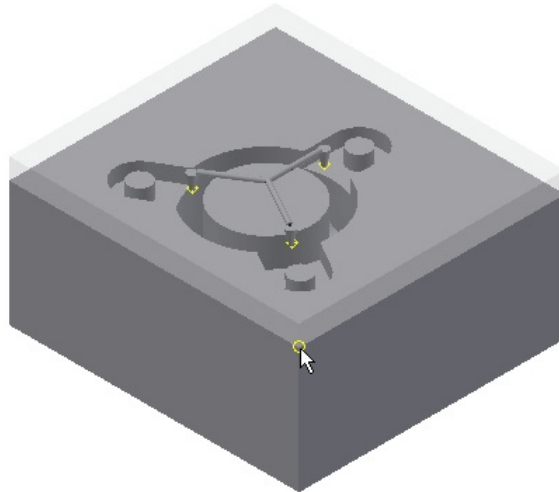
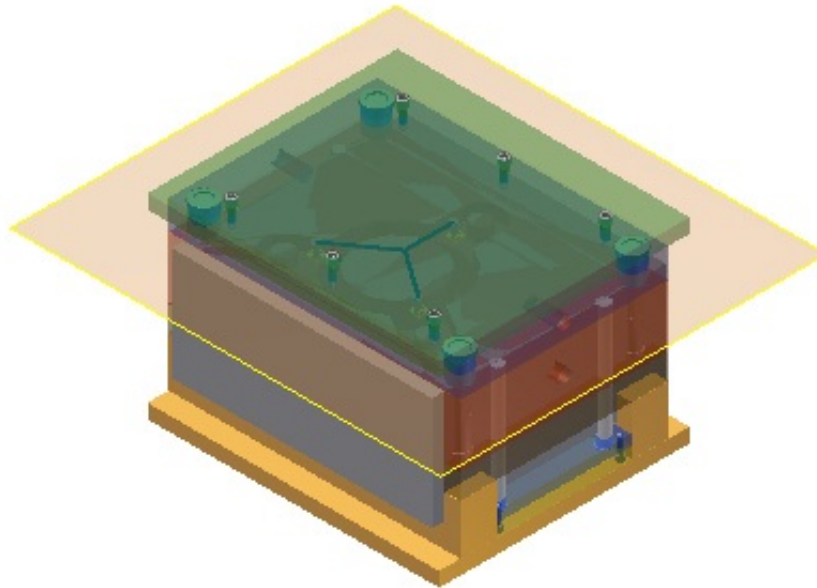

Figure 19-85 The point to be selected on the workpiece
Figure 19-86 The mold base created
3. Click at the location as, shown in Figure 19-85, and then choose the **OK** button from the dialog box; the mold base is created, refer to Figure 19-86.